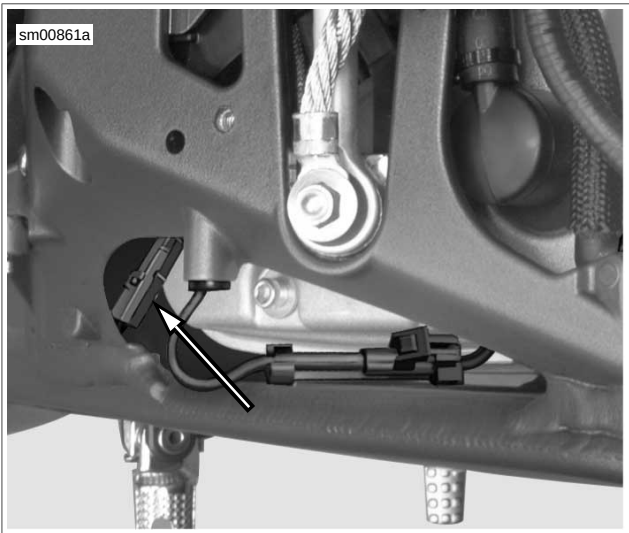

Figure 4-15. Oxygen Sensor Connector [137] (Typical)
- 7. See Figure 4-15. Unplug 1-place connector [137].
- 5. See Figure 4-15. Connect 1-place connector [137] to wiring harness.